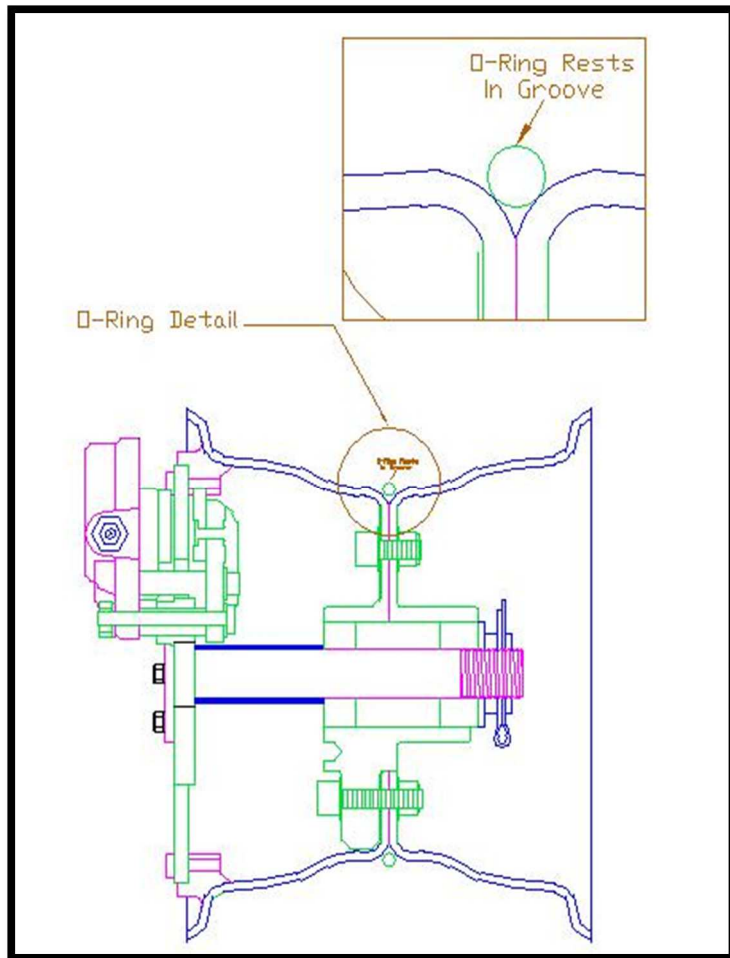

Figure L-1
1. Inspect the rim face at the radius where the o-ring will seat, for deep scratches, nicks or imperfections. Smooth out any imperfections with a medium grit emery cloth. **(Figure L-1)**